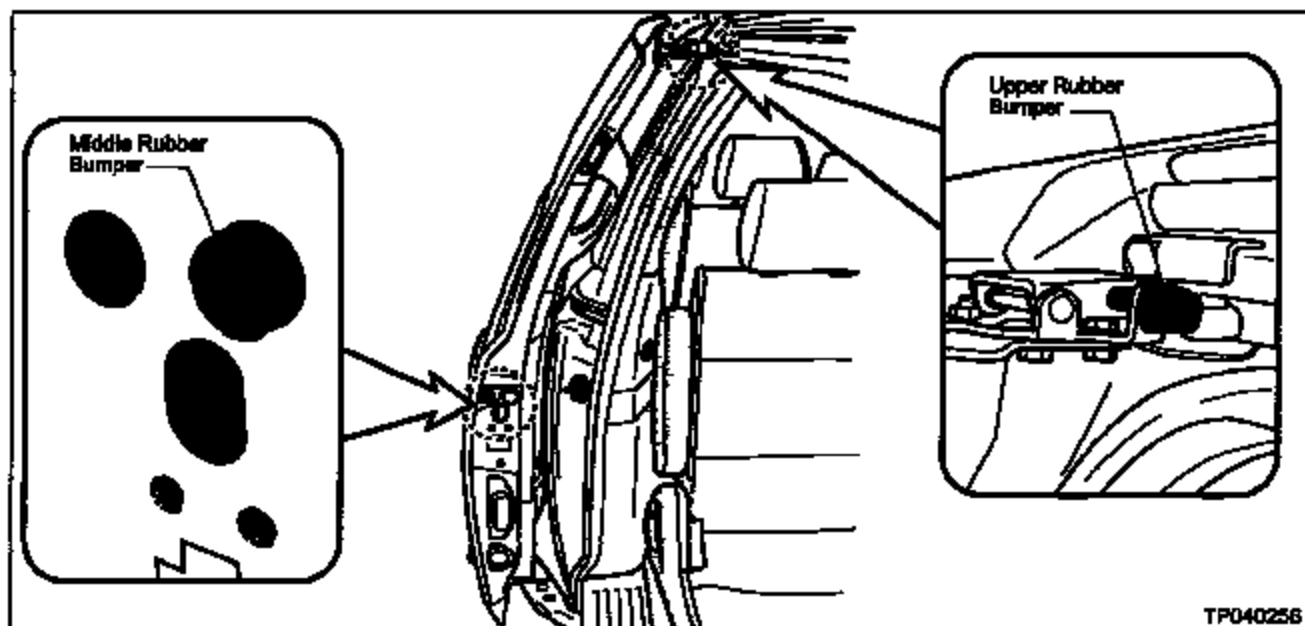

Figure J3
6. Remove and discard the Upper and Middle Rubber Bumpers (see Figure J3).